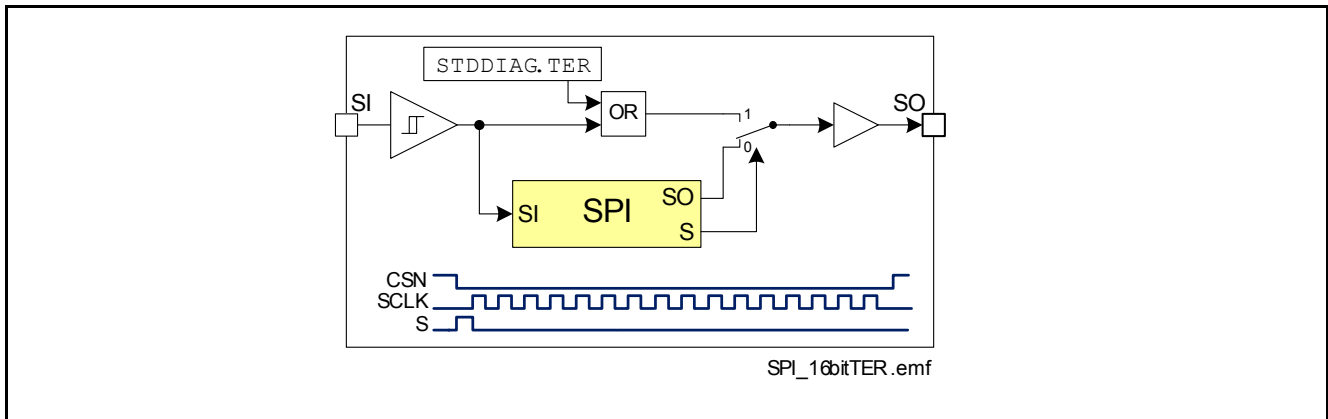

Figure 39 Combinatorial Logic for TER bit
- **TER** Flag will set the Bit number 10 in the STD diagnosis Frame. This Bit is set to HIGH after an undervoltage condition, reset via SPI command, on Limp Home state entering or after an incorrect SPI transmission. **TER** Flag can be read also directly on the SO line between the falling edge of the CSN and the first rising edge of the SCLK according to the Figure 39.